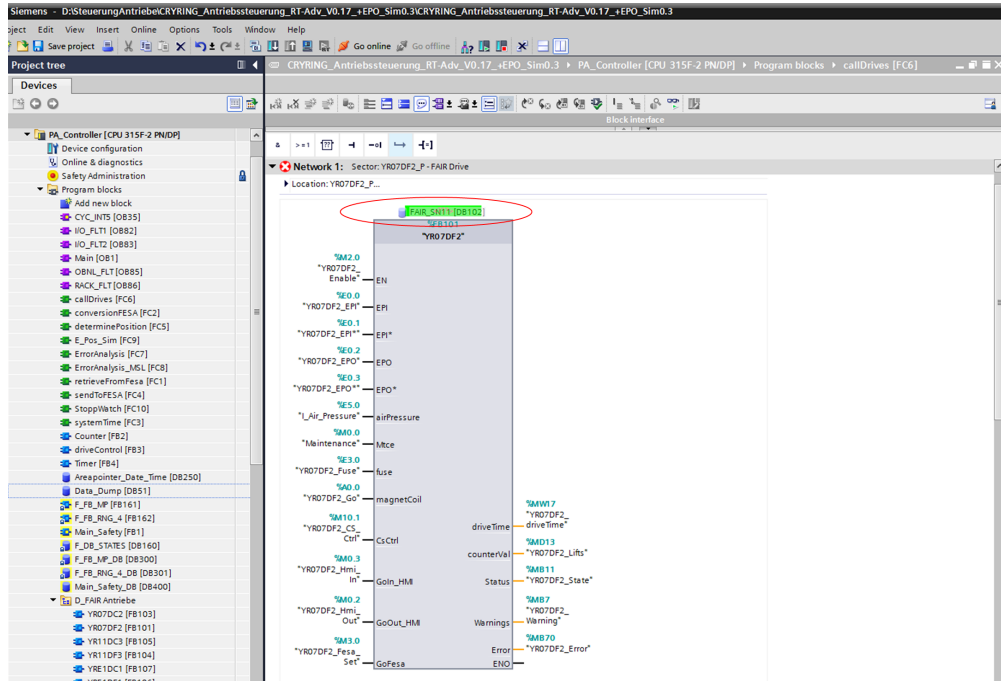

Figure 7: Drag DB over FB
13. Drag the DB from the project tree and drop it on the question marks over the FB (Figure 7)